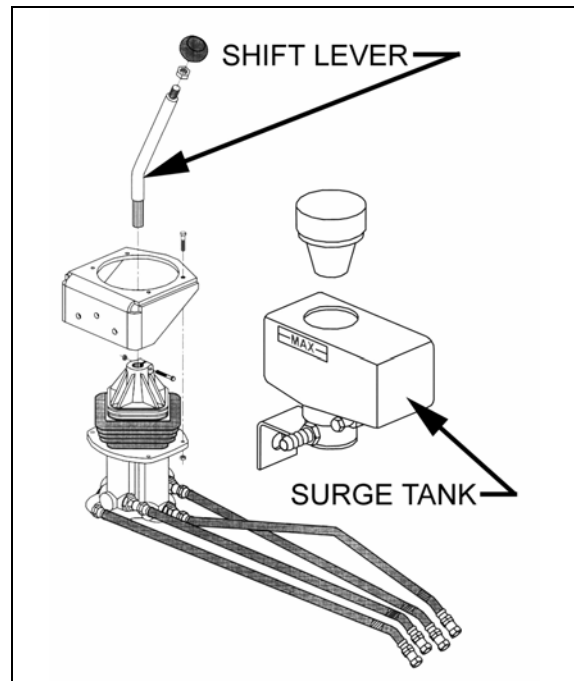

FIGURE 11: SHIFT LEVER ASSEMBLY 07040
Note: Surge tank oil level must be visible without exceeding maximum limit. Reservoir is located behind driver's seat (refer to figure 11)
- a. Disconnect the hydraulic pipes four connectors from hydraulic shifter assembly (Fig. 11 and 12).